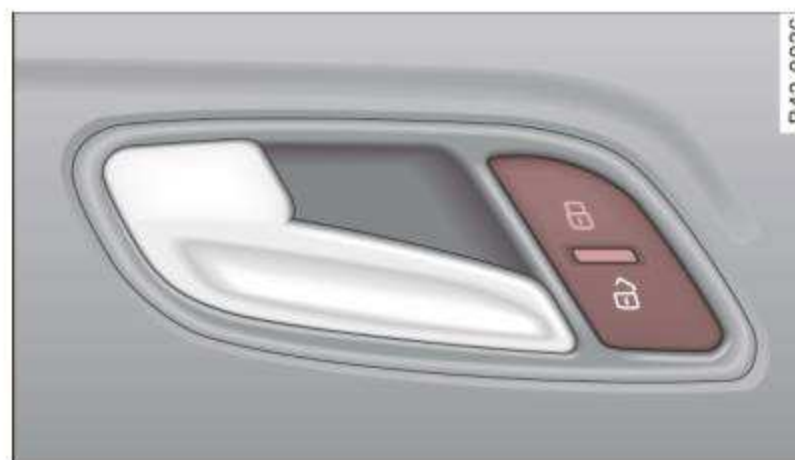

Fig. 33 Section from driver's door: Power locking switch
- Press the upper part of the power locking switch  ⇒ page 44, fig. 33 ⇒ .